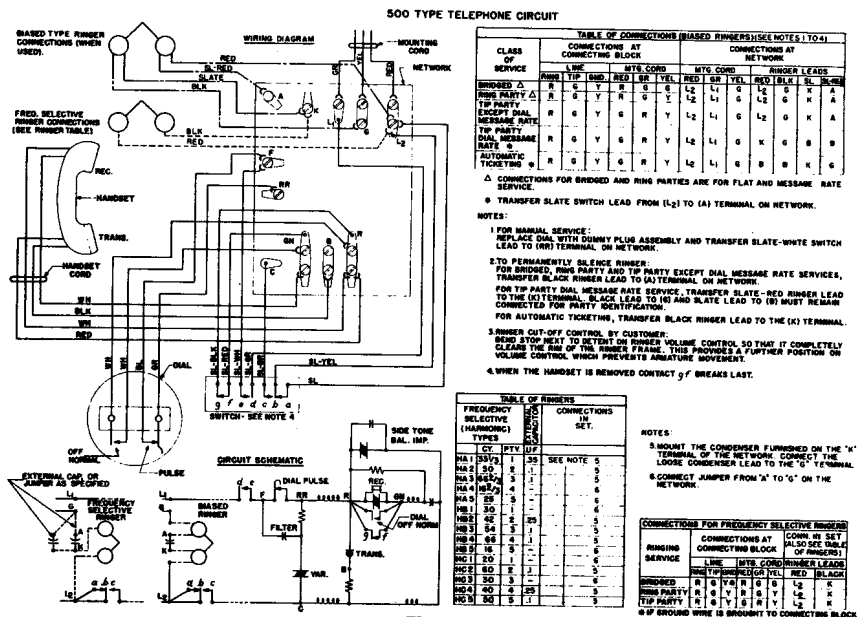

FIGURE 2
- 5.01 The connections at the connecting block and terminal board of the network assembly will depend upon the type of ringing (biased or frequency selective) and the ringing service (See Figure 2 and 3).